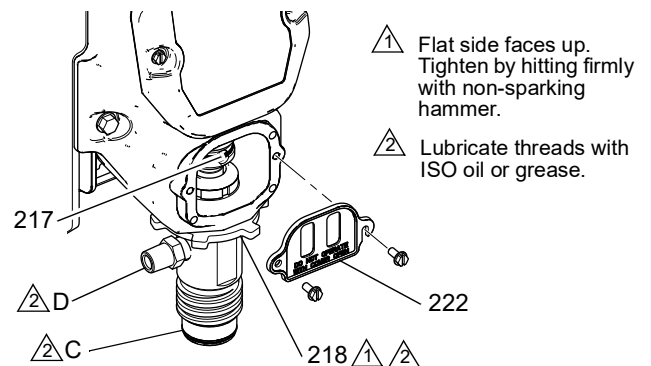

FIG. 52
4. Install pump in reverse order of disassembly, following all notes in FIG. 52. Reconnect fluid inlet (C) and outlet (D) lines.
5. Tighten fluid outlet fitting (D), then tighten locknut (218) by hitting firmly with a non-sparking hammer.